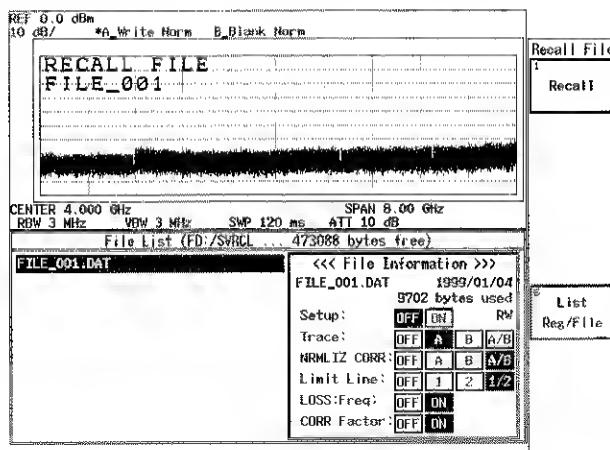

Figure 2-149 Selected File
4. Select the file from the file list using the step keys or data knob (See Figure 2-149).